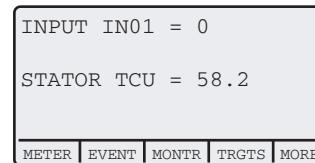

Figure 4.71 HMI Display for an Entry in (a) Boolean Name and Alias Strings and (b) Analog Name and User Text and Formatting Strings
Figure 4.71 shows the HMI display for the entry in *Table 4.63*. Input IN01 is deasserted in this display (0), and the display changes to INPUT IN01 = 1 when Input IN01 asserts. Stator TCU is 58.2% in this display.